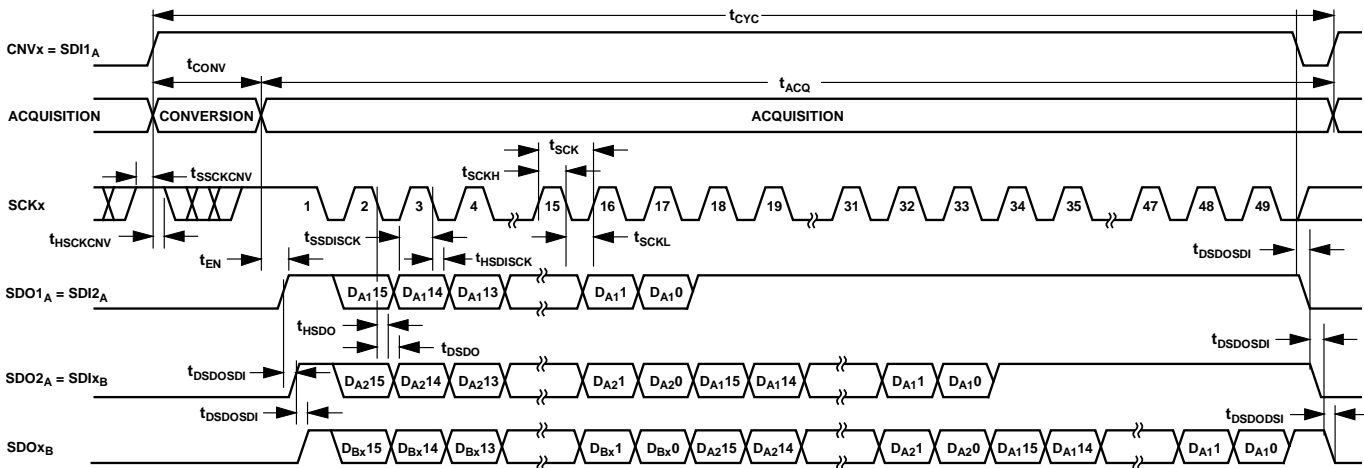

Figure 49. Chain Mode with a Busy Indicator Serial Interface Timing
- In chain mode when SCKx is high during the CNVx rising edge (see Figure 49).
See Figure 48 for a connection diagram example using three AD7902 ADCs. The corresponding timing is shown in Figure 49.